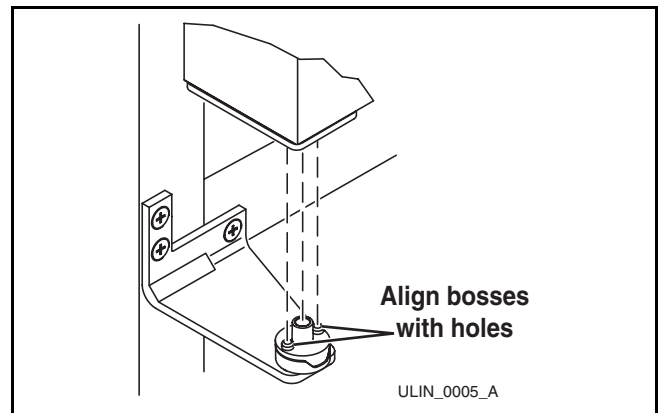
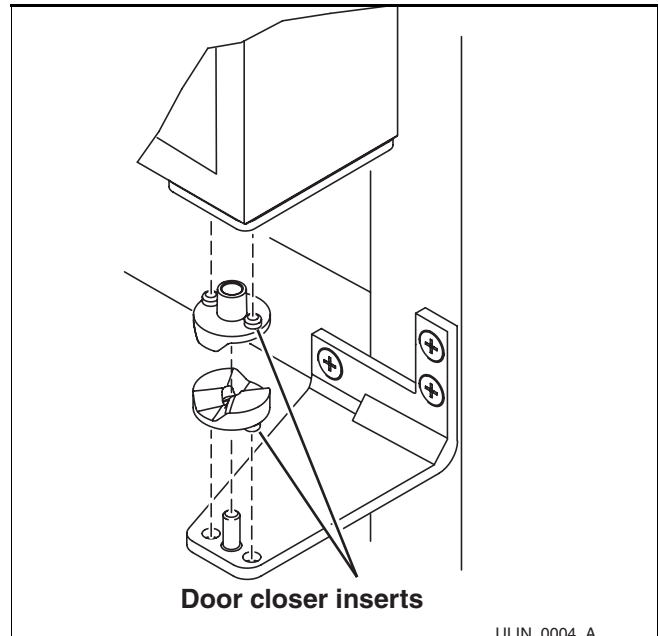

Figure 36
Figure 37
4. Install the removed top hinge mount on opposite side **BOTTOM** (**Figure 36**).
- Remove the two door closer inserts (**Figure 37**) from the existing bottom hinge and install as shown on the new bottom hinge (**Figure 36**).
- Holding door upright with top of door tilted forward, place hole of door pivot plate on bottom hinge screw pin/closer inserts (**Figure 36**).